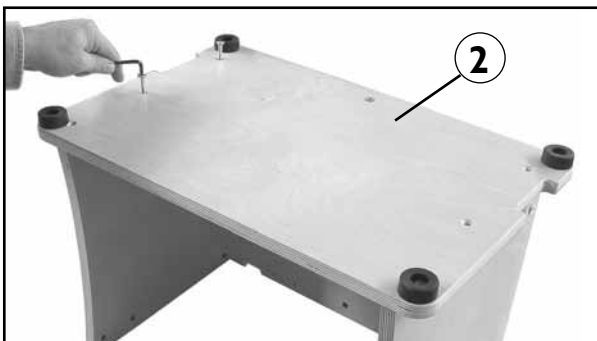

Fig. 6
6. Attach base panel to cabinet assembly. Flip the cabinet assembly upside down, as shown in **Fig 6.** Use the 1/4-20 x 1 1/4" flat head socket cap screws (19) and 1/4-20 cross dowels (25). Tighten securely. Flip the cabinet assembly right side up when done.